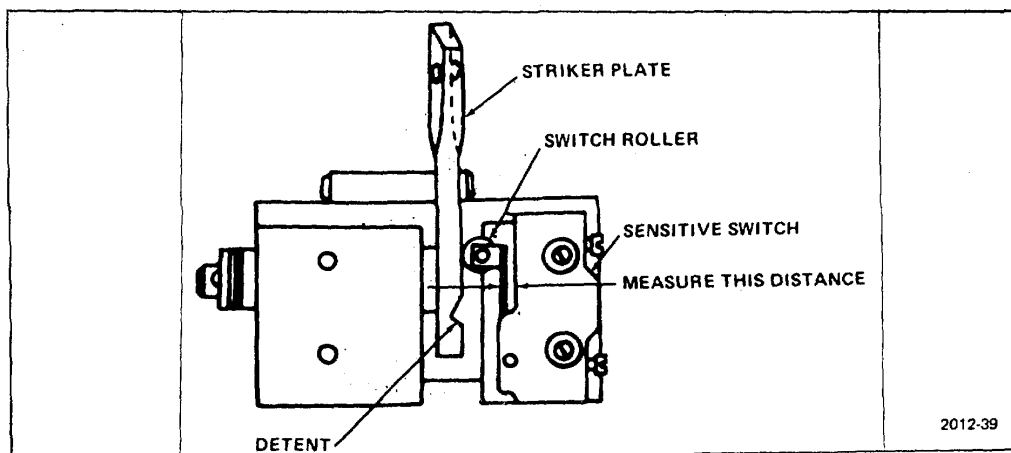

Figure 6-4. Neutral Safety Switch Adjustment
1. With the switch roller contacting the flat area of the striker plate, out of the detent, as shown in figure 6-4, adjust the switch position just to the point where a click is heard in the switch.